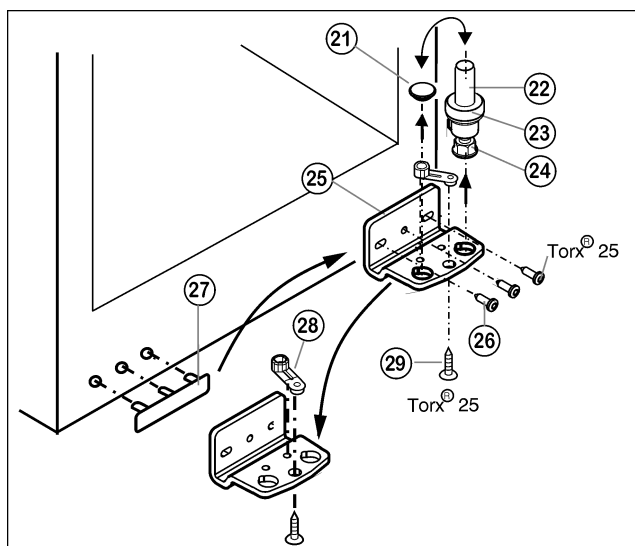

Fig. 5
- ▶ Lift out the bearing pin Fig. 5 (22) together with washer Fig. 5 (23) and adjustable-height foot Fig. 5 (24).
- ▶ Lift off the stopper Fig. 5 (21).
- ▶ Unscrew Fig. 5 (26) the turn hinge Fig. 5 (25).
- ▶ Unscrew Fig. 5 (29) the bearing element Fig. 5 (28), transfer it to the opposite location hole of the turn hinge and screw it firmly into place.
- ▶ Carefully lift off the cover on the handle side Fig. 5 (27) and transfer it to the opposite side.
- ▶ Screw the turn hinge Fig. 5 (25) firmly into place on the new hinge side, possibly using a cordless screwdriver (with 4 Nm).
- ▶ Re-insert the stopper Fig. 5 (21) into the other hole.
- ▶ Re-insert the bearing pin Fig. 5 (22) together with the washer and adjustable-height foot. In so doing, pay attention that the locating lug points backwards